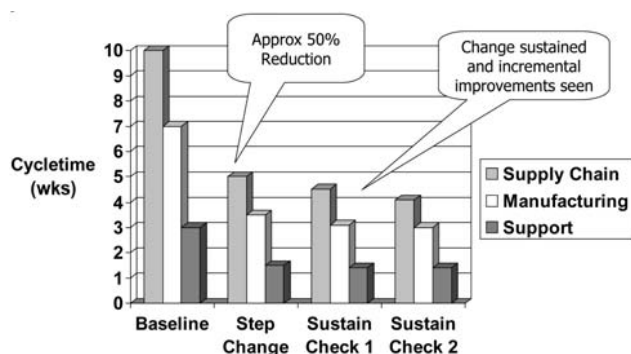

Figure 9. Cycle time reduction results.
- Approximately 50% reduction in overall supply chain cycle time (see Figure 9).